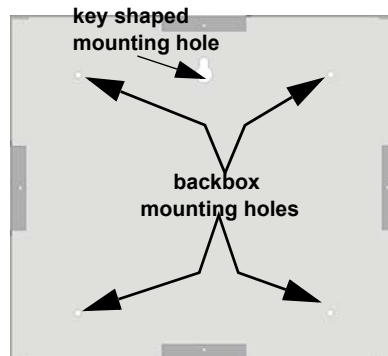

Figure 5 Backbox Surface Mount Holes
2. To properly mount the backbox, insert a single screw into the key shaped mounting hole. Do not tighten all the way. See Figure 5.